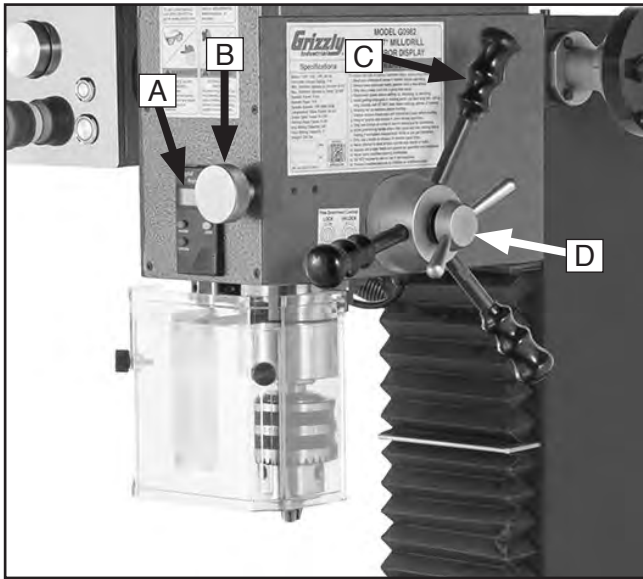

Figure 28. Right spindle downfeed components (G0982 shown).
Use **Figures 28–29** and the following descriptions to become familiar with the spindle downfeed controls.
1. Loosen downfeed selector handle to engage coarse downfeed handles (see **Figure 28**).